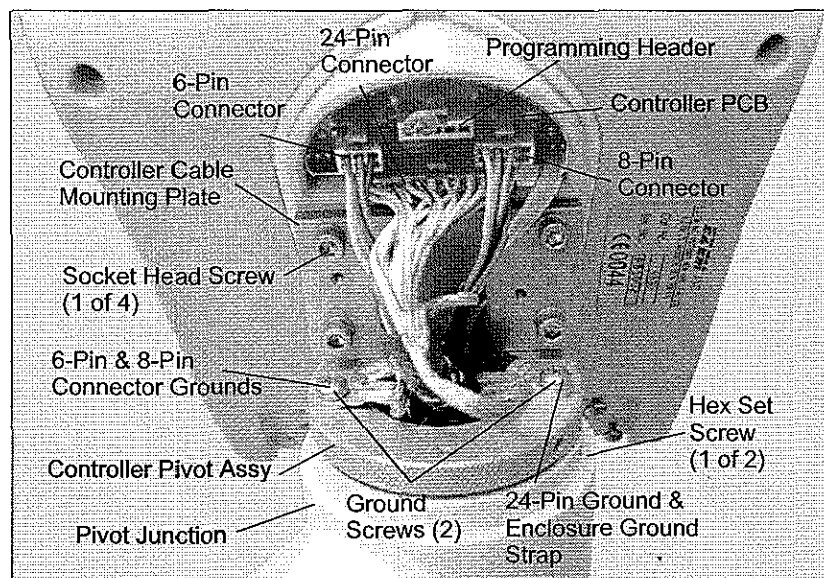

Figure 5-1a: Controller Pivot Assembly
4. Disconnect the 6-pin, 8-pin, and 24-pin connectors from the back of the Controller PCB. Do not disconnect the Programming Header (see Figure 5-1a).
5. Remove the two Phillips ground screws and remove the four ground wires. Each screw has a lock washer and flat washer (see Figure 5-1a).
The Injector pigtail is connected on one end as a 6-pin connector to the back of the Injector Controller (see Figure 5-1a). The other end of the cable is routed to the bottom of the pole (floor mounting) or up through the Injector Mounting Arm (overhead mounting) where it is connected to the power/communications cable that connects to the Power Supply (see Section 5.9.1 – Replacing the power/communications Cable).
5. Remove the Injector pigtail's ground strap from the Controller Pivot Assembly (see Figure 5-1a). You must first remove the Phillips screw with its lock washer and flat washer.
1. Install the Injector pigtail cable through the Injector pivot and connect the 6-pin connector to the back of the Controller PCB (see Figure 5-1a).
3. Replace the Injector pigtail's ground strap on the Controller's Pivot Assembly (see Figure 5-1a). Secure with flat washer, lock washer, and Phillips screw.
The EDA pigtail is a 6-wire cable with an 8-pin connector that is connected to the back of the Injector Controller (see Figure 5-1a). The other end of the cable is routed downward in the pole (floor mounting) or upward through the Injector Mounting Arm (overhead mounting) where it is connected to the EDA module (see Section 5.9.5 – Replacing the EDA Module).
5. Remove the EDA pigtail's ground strap from the Controller Pivot Assembly (see Figure 5-1a). You must first remove the Phillips screw with its lock washer and flat washer.
1. Install the EDA pigtail cable through the Injector pivot and connect the 8-pin connector to the back of the Injector Controller (see Figure 5-1a).
3. Replace the EDA pigtail's ground strap on the Controller's Pivot Assembly (see Figure 5-1a). Secure with flat washer, lock washer, and Phillips screw.